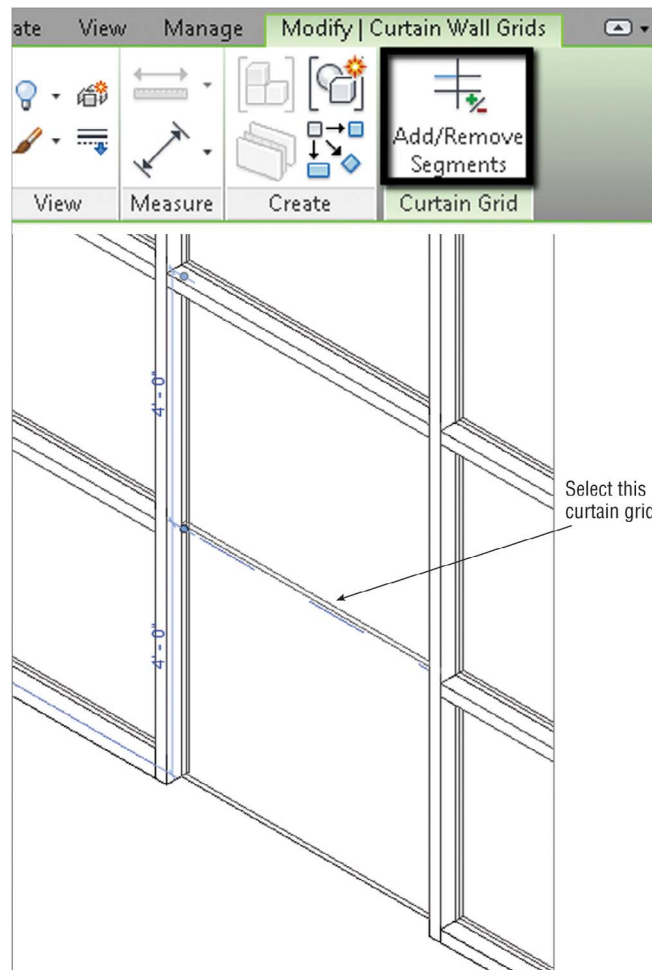

FIGURE 2.28 Preparing to use Add/Remove Segments
1. Click the Modify button in the ribbon, hover the mouse pointer over the curtain grid that is bisecting the two panels, and select the line shown in Figure 2.28.